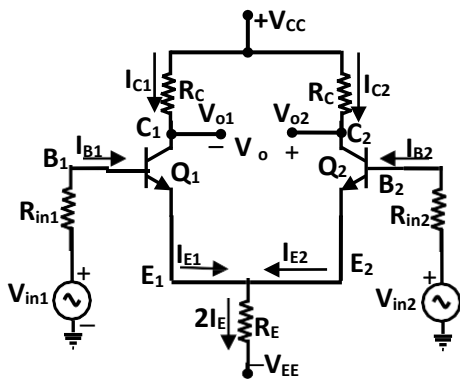

Figure 3.12: Dual Input Balance output Differential Amplifier
c) Dual Input Balance Output Differential Amplifier: In this amplifier as shown in figure 3.12, input signals (V_{in1} and V_{in2}) are applied to the base of transistors Q_1 and base of Q_2 . The output (V_o) is measured between two collectors, which are at the same DC potential. Therefore the output is said to be balanced output.